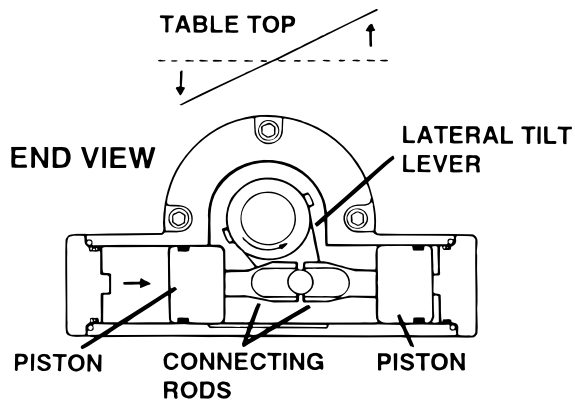

Figure 1-13. Lateral Tilt Cylinder Assembly
3. Lateral Tilt Assembly - The lateral tilt assembly consists of two cylinders, pistons and connecting rods. The connecting rods attach to the lateral tilt lever which connects to the table side frames. When hydraulic fluid is pumped into one cylinder, the piston and connecting rod pushes the lateral tilt lever which tilts the table top to one side. To tilt the table top in the opposite direction, fluid is pumped into the opposite cylinder. See figure 1-13.